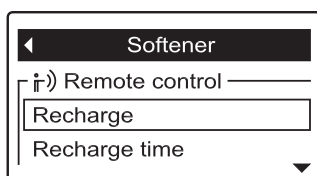

FIG. 109
2. Press the remote’s SELECT (O) button to display the device menu (See Figure 109).
3. If necessary, press the DOWN (▼) button to scroll through the menu options until **Recharge** is highlighted in a box (See Figure 109).
6. Press the SELECT (O) button. The display will go back to the softener menu (Figure 109).